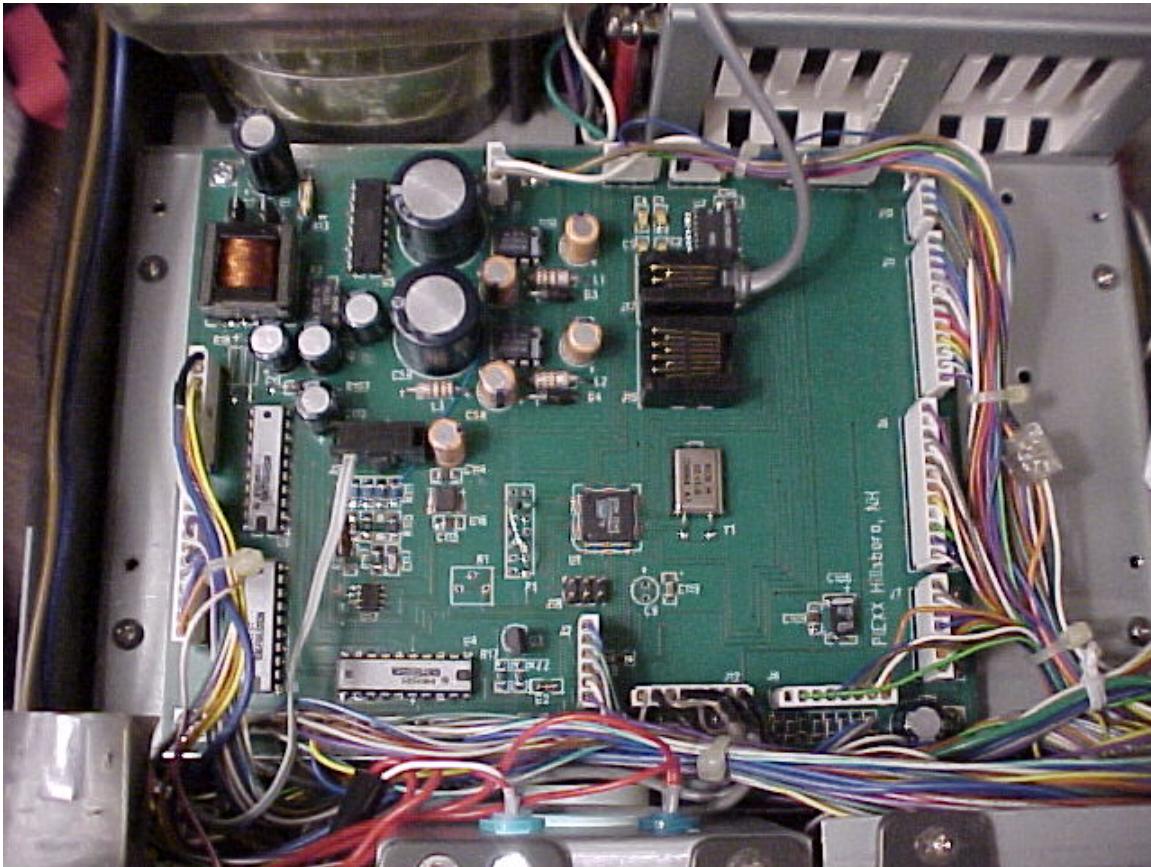

Figure 2
9. Replace the 15 connectors on the circuit board (Note: there are now only 15 connectors, instead of 16, because you removed and discarded the battery and its associated connector, in step 4). The connectors should be approximately in alignment with the new board and in the correct orientation. Make sure that the connectors are not plugged in so as to miss a pin. There should be no visible pins after you plug in the mating connectors. There should be no visible pins after you plug in the mating connectors. Double check your work! Figure 2 shows the board with all connectors reinstalled. Note that there is a connector with nothing attached in the bottom center of the board as shown, and that there is a wire plugged into a jack in the left center of the board just below the large electrolytics. The latter is J20, and the picture shows the s-meter hook-up already completed – we'll get to that below, in step 14. The other open jack is for a future option, so don't worry about it.